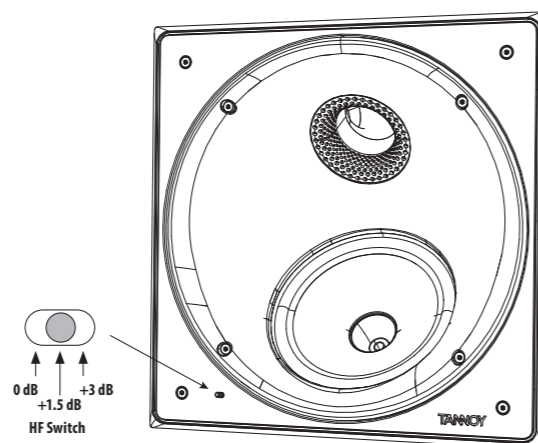

Fig. 10. HF Switch Positions
1. The HF switch has three positions, with 0 dB being flat. Adjust as necessary to suit the room position and acoustic conditions (Fig. 10.).